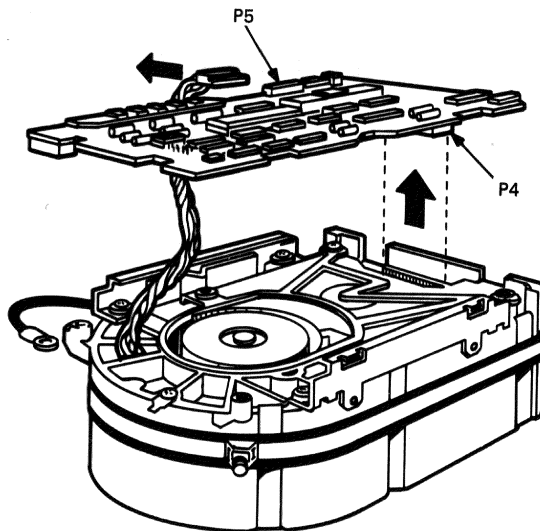

Figure 6-9 MPCB Removal (RD52)
6. Lift the MPCB straight up until it clears the chassis. This disconnects P4, a 12-pin fixed plug. (Figure 6-9)